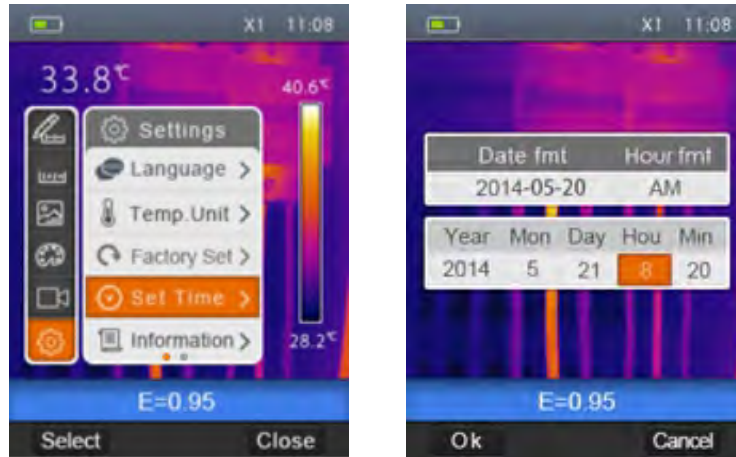

Fig. 11: Setting the instrument's date/time
1. Select the item “ Set Time” with the keys \oplus or \ominus and press the key \equiv . The screen Fig. 11 – Right side is shown on the display.